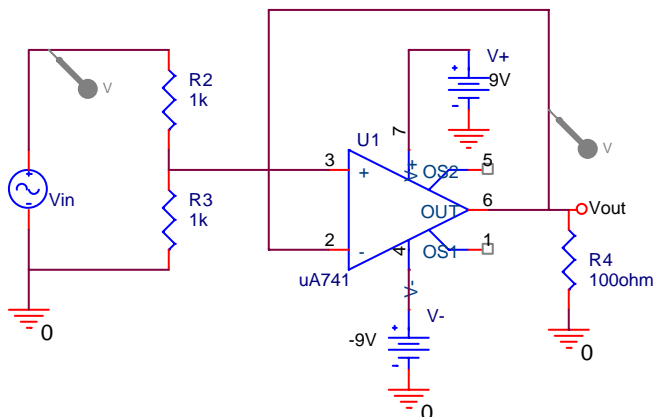

Figure B-3
- Modify the circuit you created by adding an op-amp voltage follower between R3 and R4, as shown in figure B-3 on the next page: